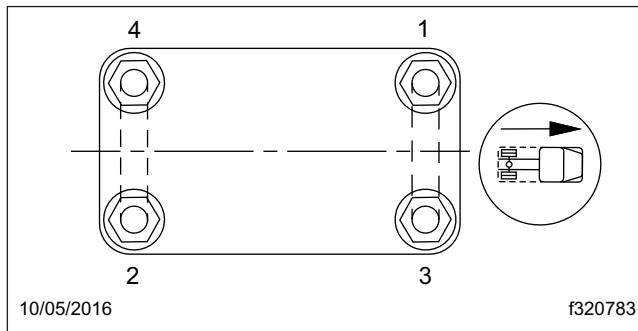

Fig. 6, Tightening Sequence for U-Bolt High Nuts
2. Check the U-bolt torque in a diagonal pattern. See Fig. 6. Set a click-type torque wrench to the highest torque value for the fastener being checked. See Table 3 for U-bolt torque specifications. Turn the wrench in a clockwise motion (looking up) until the torque wrench clicks.
* Tighten in the sequence shown in Fig. 6.